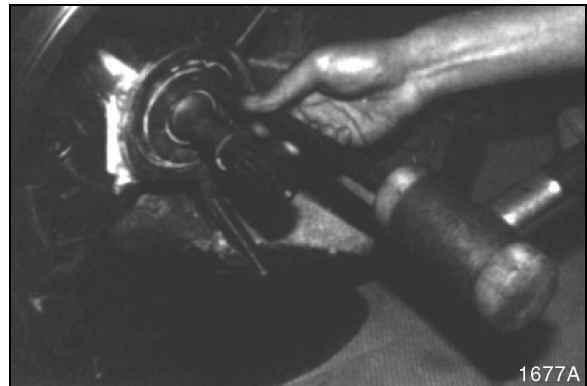

Figure 83
6. Tap with soft pipe and plastic hammer to seat firmly. See Figure 83.